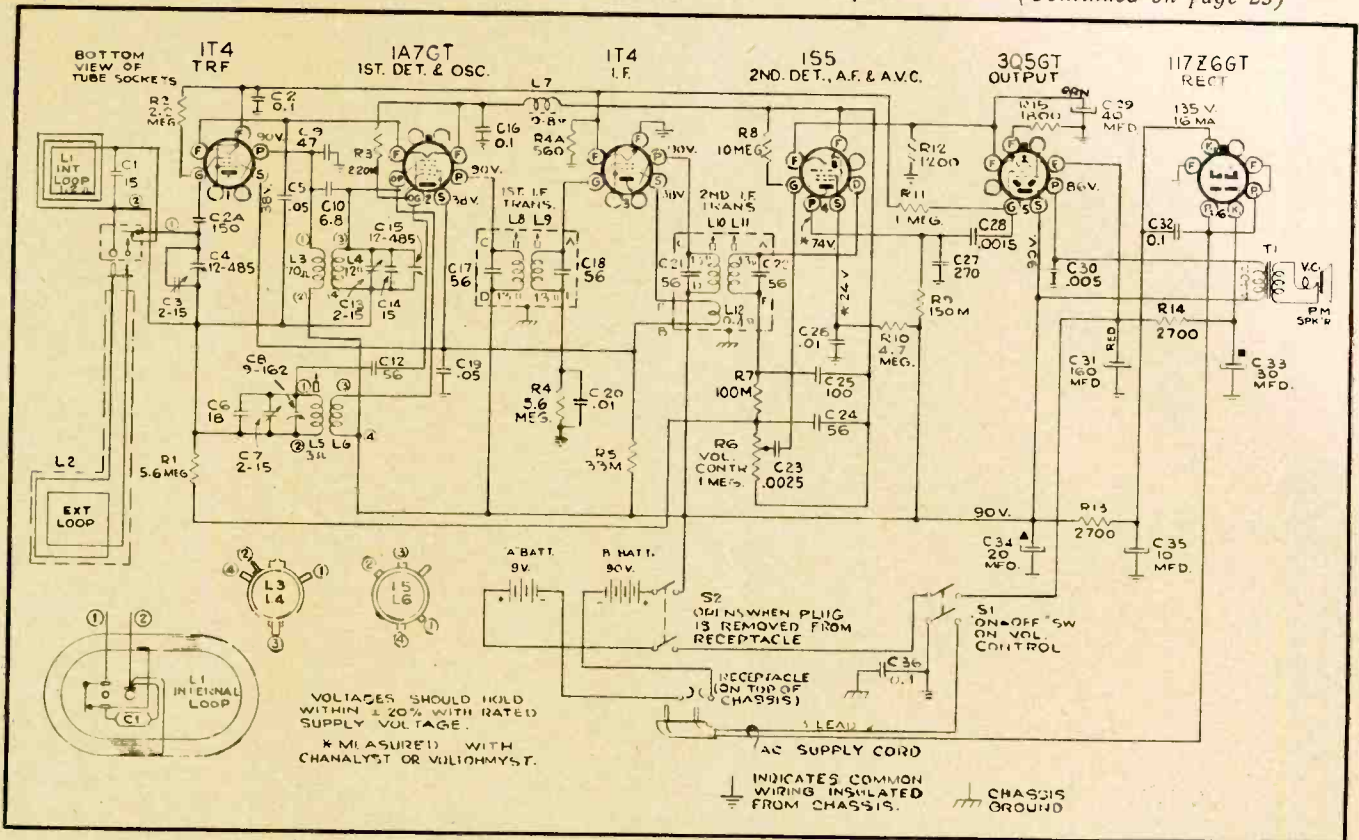

Fig. 6—RCA inaugurates 3 manually tuned circuits in latest Model 26BP.
**HIGH-GAIN PORTABLE (FIG. 6)**
The recently introduced RCA Victor Model 26BP portable is a logical elaboration of the now-famous BP10. This latest in the miniature-tube line is a 3-way job, with a 117Z6GT providing filament and plate power when the receiver is operated from an a-c or d-c power line. The complete circuit is shown in Fig. 6.